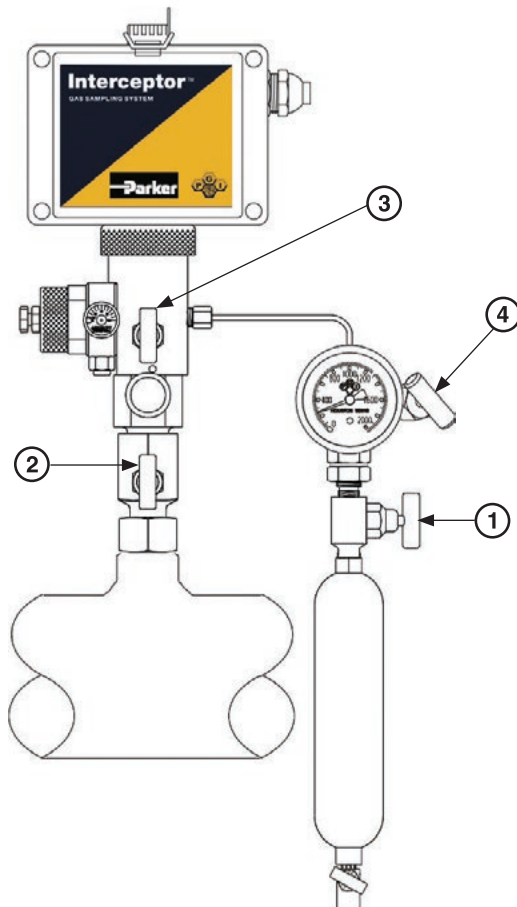

Figure 24: Purging the System
1.1 Purge the System (refer to Figure 24)
1. Purge the system as shown in step 1.1 and Figure 24.
2. Locate the spring check and remove the housing ①, using a 3/4" hex wrench.
3. Remove the spring ② and the poppet ③.
2. Remove the balance valve assembly ①, using a 3/4" hex wrench.
3. The poppet and O-ring assembly ② may remain inside the pump body pocket, and should be removed with a cotton swab or other soft object.
2. Locate the regulator and remove the end cap ① by hand.
3. Remove the piston spring ②.
4. To remove the piston ③, insert a small-blade screwdriver into the removal groove ④ and pull outward.
5. Remove the relief nut ④ by turning counter-clockwise with a large-blade screwdriver.
6. Remove the dart ⑤ and dart spring ⑥.
7. To remove the dart seat ⑦, straighten a paperclip and insert one end through the seat removal hole ⑧.
1. Replace O-ring ⑨ on the relief nut ④.
2. Assemble the dart ⑤, dart seat ⑦, and dart spring ⑥ into the relief nut as shown at right.
3. Install the relief nut ④ into the regulator body, using a large, flat blade screwdriver.
4. Replace the quad ring ⑩ and install the piston ③ into the regulator body.
5. Install the piston spring ② into the piston ③.
6. Loosen the lock nut ⑪ and remove the adjusting screw ⑫ from the end cap ①.
7. Replace O-ring ⑬ on the end cap and install the end cap to the regulator body hand-tight. Slowly open the probe valve (② in Figure 24).
2. Use a 3/32" hex socket wrench to back out the set screw ① until about 1/4" of it is visible outside the pump body ②.
3. By hand, turn the pump body ② counter-clockwise until it is removed from the lower body ③.
4. Remove the inlet diverter plug ④ from the lower body ③ using a flat blade screwdriver.
5. Place a 1/4" nut driver onto the nut at the bottom of the inlet check ⑤ and push upward to expose the O-ring ⑥.
6. Remove the O-ring ⑥ by rolling it over the flange of the inlet check.
7. Remove O-rings ⑦ and ⑧ from the lower body.